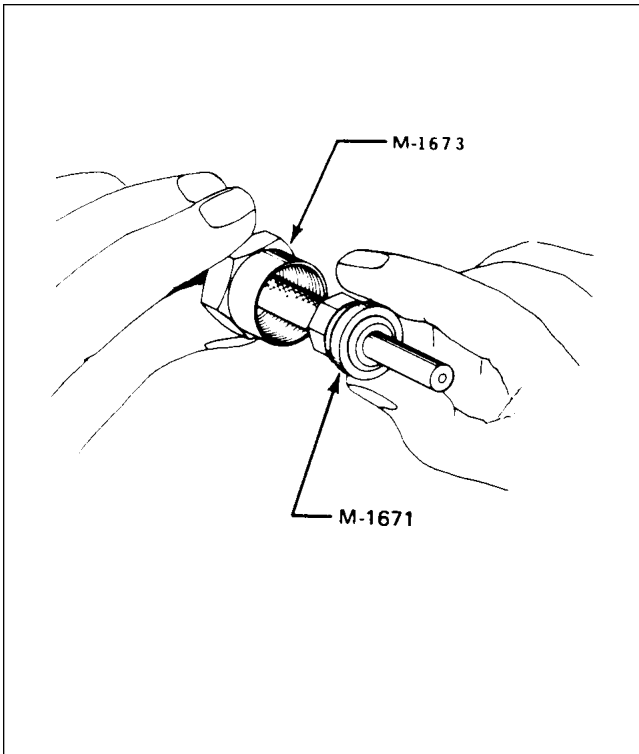

Figure 74-19. Installation of Plug Endnut
- g. On spark plug end of wire install M-1673 nut followed by M-1671 female taper hex ferrule. Refer to Figure 74-19.